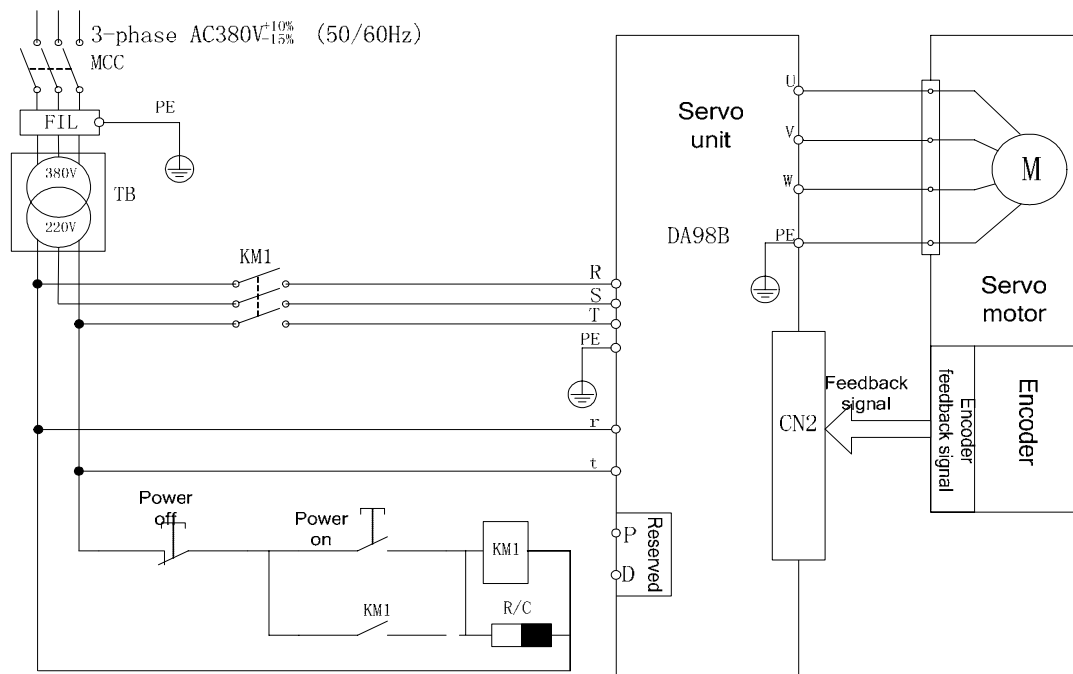

Fig.3.2 Typical wiring for the main circuit
- Single phase power supply AC220V(+10%~ -15%) can be employed when the precision is comparative low and the power is less than 0.8KW for servo unit, and its the wiring is as fig.3.2